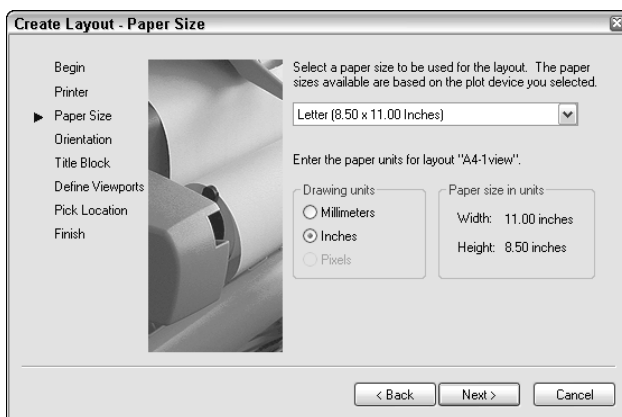

Figure 17-3: The Paper Size screen of the Layout Wizard.
4. On the third screen, shown in Figure 17-3, specify a paper size and drawing units and then click Next.